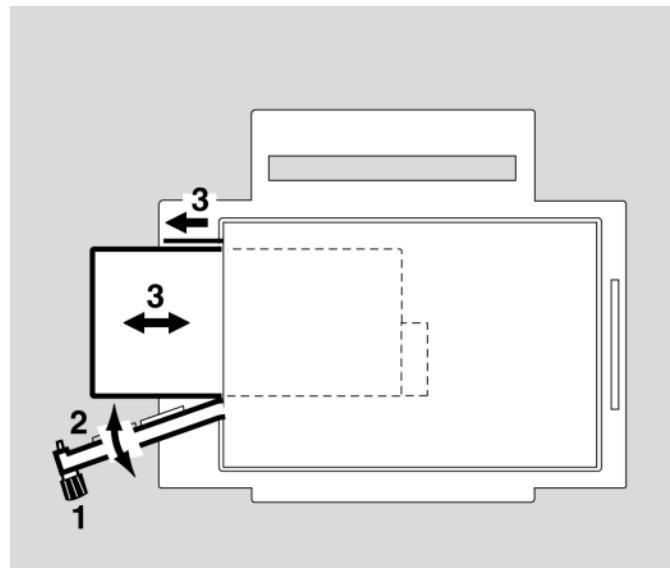

Figure 2 Removing the internal battery
1. Slacken the screw Figure 2/1 of the battery compartment cover anti-clockwise until the cover can be opened.
2. Fold the cover Figure 2/2 down.
3. Pull the internal battery Figure 2/3 forward by its tab and withdraw it.